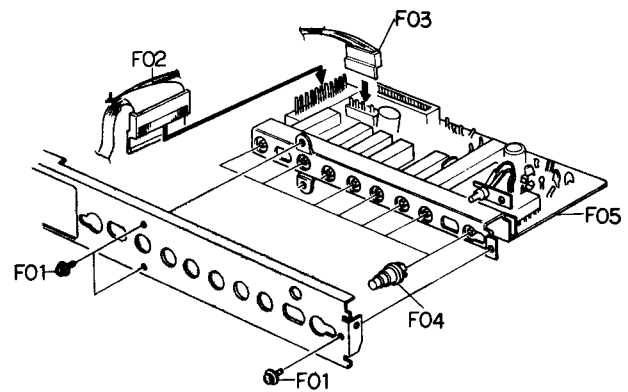

Fig. 3.3
Refer to Fig. 3.3. Remove Top Cover and Front Mechanism Ass'y referring to item 3.1, then remove Front Panel Ass'y referring to item 3.2. Remove F01, F02 and F03, then F04 (Push Button Ass'y) and F05 (Switch Holder Ass'y).